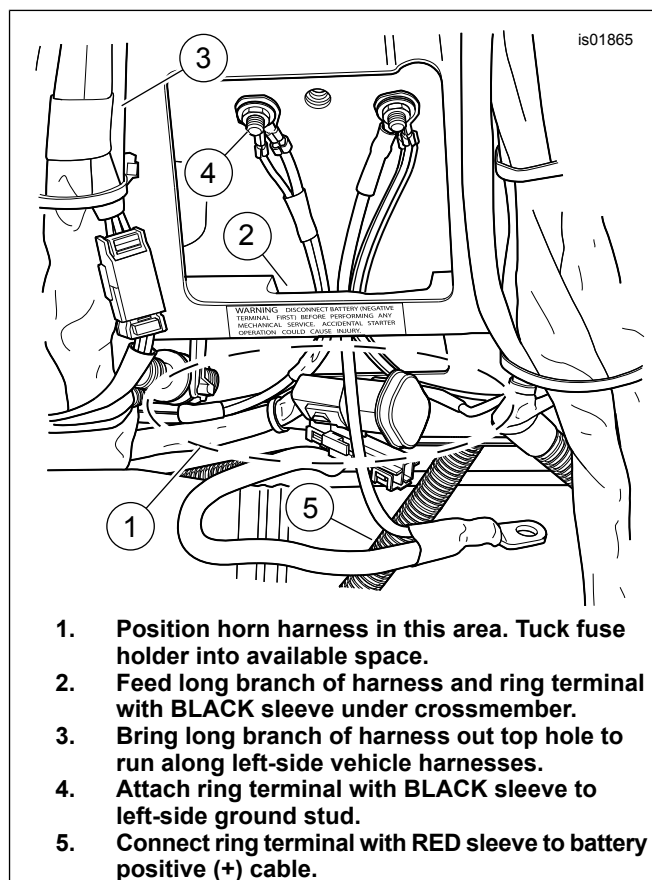
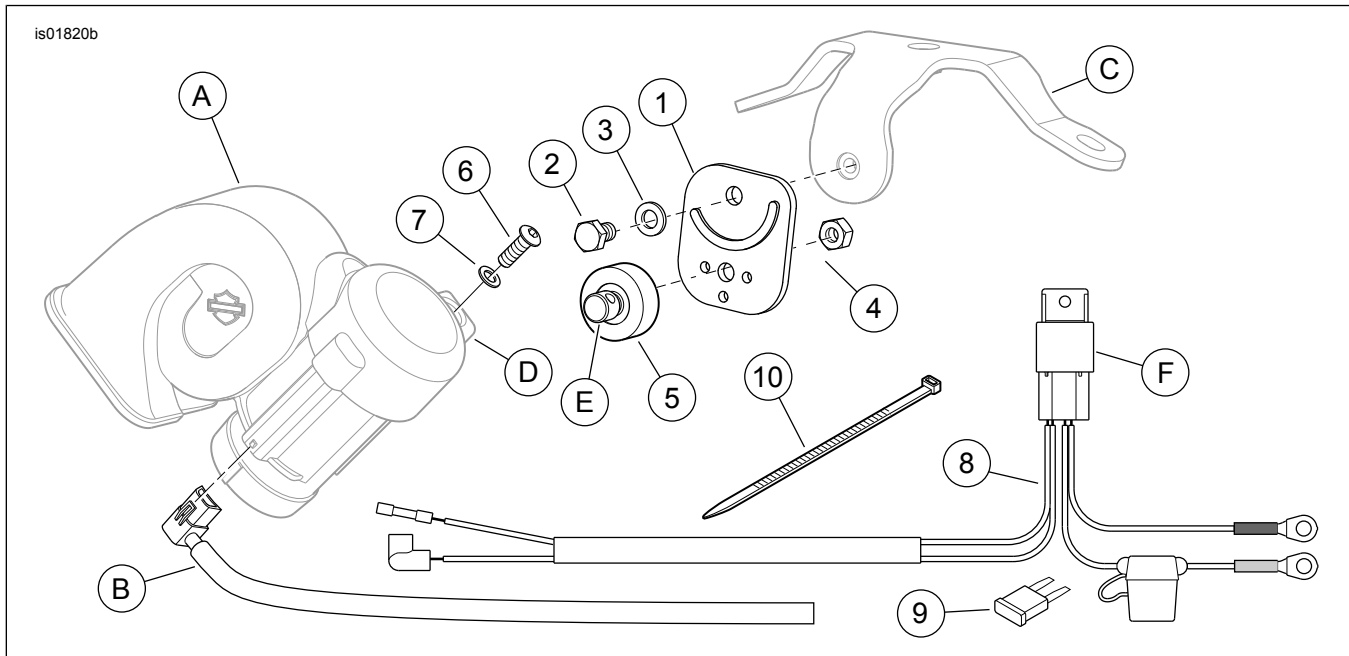

Figure 2. Horn Harness Routing, FL Touring Models (2005 Shown)
Figure 4. Service Parts: Horn Installation Kit
See Figure 4 and Table 1.
1. See Figure 4. Assemble the horn mounting bracket (1) to the weld nut on the engine strap (C), with the bent tab toward the vehicle, using the screw (2) and washer (3). Do not fully tighten at this time.
2. Insert the **threaded** stud on the isolator (5), from the outside, into the large hole in the horn mounting bracket. Fit the three pins on the isolator into the small holes in the bracket, and fasten the isolator to the bracket with the lock nut (4). Tighten to 9–11.3 N·m (80–100 in-lbs).
3. Rotate the horn mounting bracket clockwise, to the orientation shown in Figure 4. Tighten the chrome hex screw to 9–11.3 N·m (80–100 in-lbs).
4. Obtain the Premium Air Horn (item A, purchased separately), the socket head screw (6) and small chrome flat washer (7) from **this** kit. Hook the mounting block (D) on the back of the horn over the T-stud (E) on the isolator. Align the hole on the top of the mounting block with the threaded hole in the T-stud.
1. See Figure 2. Feed the long branch of the horn wiring harness (from the kit) into the space (1) in front of the vehicle battery and under the frame crossmember (2).
- a. Bring the long harness branch out through the top opening in the crossmember, and forward along existing harnesses on the left side of the frame (3).
- b. Bring the short branch with the ring terminal and **black** wire sleeve under the frame crossmember (2), and attach to the left side ground stud (4).
- d. See Figure 4. Position the relay (F) on the harness with the electrical connector at the bottom. Use a cable strap (10) to fasten the relay to the frame crossmember in front of the battery.